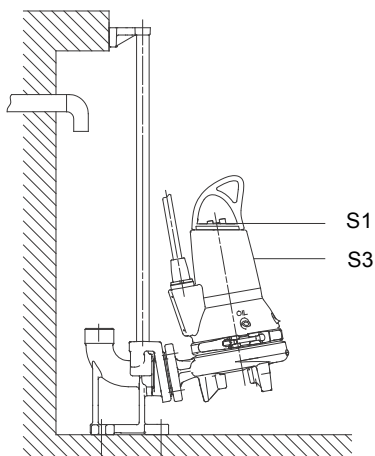
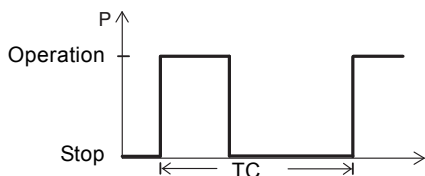

Fig. 7 Operating levels
Fig. 8 S3 operation
S3 operation is a series of identical duty cycles (TC) each with a constant load for a period, followed by a rest period. Thermal equilibrium is not reached during the cycle. See fig. 8. In this operating mode, the pump is partly submerged in the pumped liquid, i.e. the liquid level reaches at least the middle of the motor. See fig. 7.